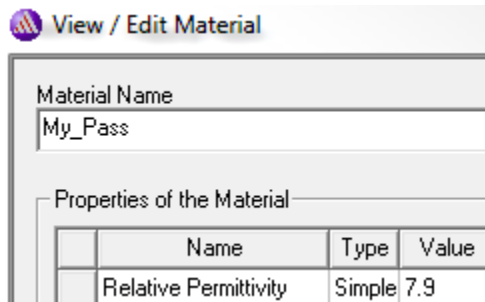

Figure 8. View/Edit Material dialog
- 4 Click **Add Material** and edit the fields as in Figure 8.